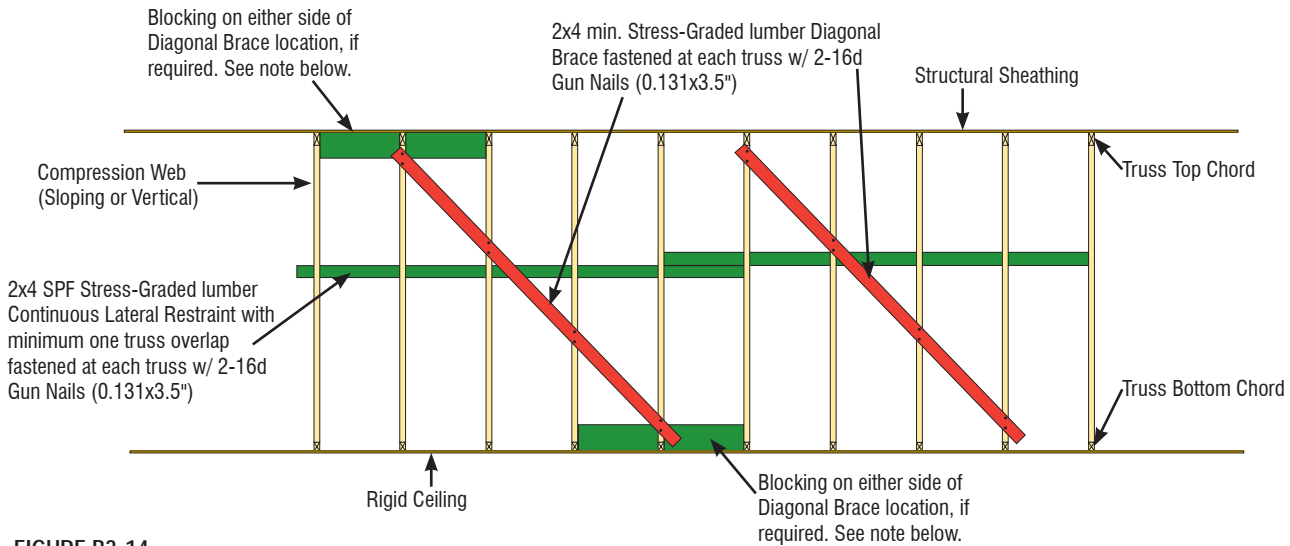

FIGURE B3-14
**Note:** To help transfer large bracing forces into the roof and ceiling diaphragms dimension lumber blocking may need to be installed between the trusses as shown in Figure B3-14. The depth of the blocking should be deeper than the depth of the truss chord and positioned at the joint between the web and chord. Cut the blocking to fit snugly between the trusses. The blocking helps to transfer the lateral load from the Diagonal Brace into the Diaphragm without having to rely on the web/chord joint.